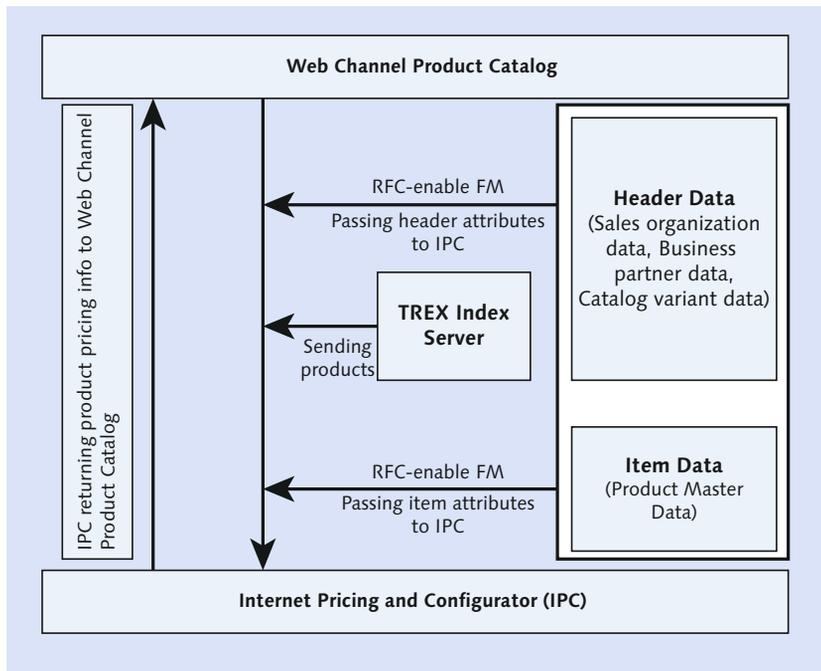

Figure 10.17 Product Catalog Pricing Flow
Product catalog pricing is one of the key elements in any Web Channel application. A customer needs to know the price of the product before adding the product to the shopping cart. SAP CRM enables companies to show product prices in the product catalog while browsing through the products to help customers make informed decisions about their purchase. Figure 10.17 shows the flow diagram for product catalog pricing.
As shown in Figure 10.17, the list price is assigned to the product catalog and replicated to the TREX index server with the other product information. When the product catalog is accessed via the Web Channel, the prices in the product catalog are retrieved from the TREX index during runtime. This results in quick product price information for the list price, whereas the IPC price calculates the price on the product catalog based on the pricing procedure assigned to the catalog variant in the product catalog. The IPC further follows the route of determining the price based on the specific condition records with a combination of master data fields.
1. A customer logs in to the web shop and chooses a catalog variant; as soon as the catalog variant is selected, the RFC-enabled function module `CRM_ISA_PRICING_HDRDATA_GET` is triggered to retrieve the pricing-relevant header attributes. As shown in Figure 10.17, these attributes are business partner data, sales organization data, or catalog variant data.